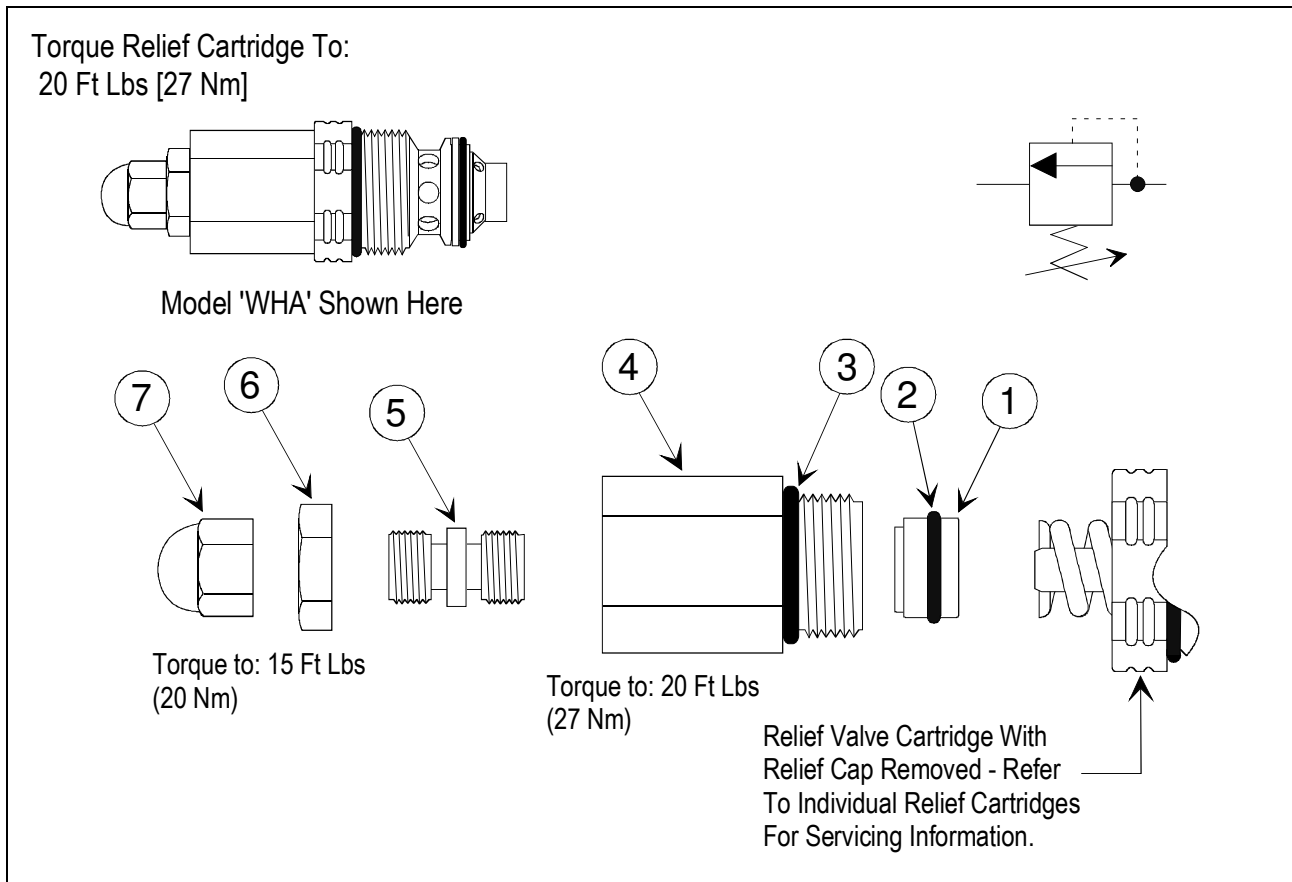

Figure 10. CK-19001 (K-WH-A) External Adjustment Kit
| | 08853xxx | WHA Relief Cartridge (See Figure 10) | 1 |
① Buna-N seals are standard for all **Gresen** valve assemblies. For Viton seals, contact the **Gresen** factory in Minneapolis.
② Model **WHA Relief Cartridge** replaces Items 8 & 9 with the **CK-19001 External Adjustment Kit** shown in Figure 10.
③ Do not attempt to change shims or springs in these reliefs unless you have the capability to test for proper pressure setting. Without the capability to test you may exceed the maximum pressure rating of the product or draw the relief spring solid, which in turn means there is no relief (NR).
④ Continuous Back-Up Rings are installed at the factory using special sizing tools. It is Not necessary to replace the original Back-Up Rings unless they have been damaged. See Page 9 for **Back-Up Ring Preparation and Installation** procedures.